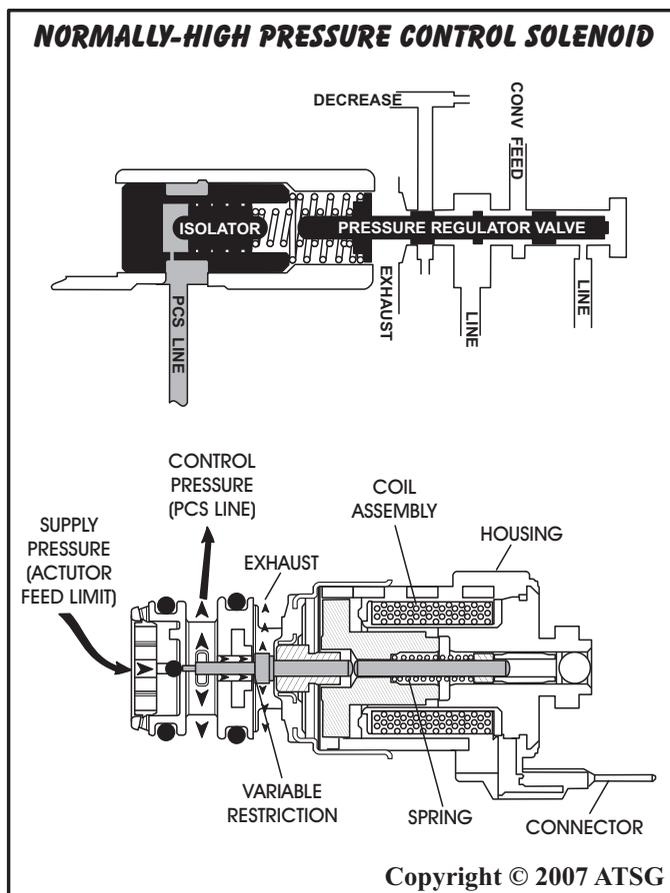

Figure 11
The line pressure (PC) solenoid is a precision electronic pressure regulator that controls line pressure based on current flow through its coil windings. The TCM varies current to the "**normally-high**" line pressure control (PC) solenoid from approximately 0.1 amp (maximum line pressure), to 1.0 amps (minimum line pressure). As current flow is increased, the magnetic field produced by the coil moves the solenoid's variable restriction further away from the exhaust port, as shown in Figure 11. Opening the exhaust port decreases the control pressure, which is routed to the isolator (boost) valve, as shown in Figure 11, which ultimately decreases line pressure. As the current flow is decreased, the reduced magnetic field allows the spring force to move the variable restriction to the left, as shown in Figure 11, closer to the exhaust port, increasing control pressure from the solenoid, which ultimately increases line pressure.